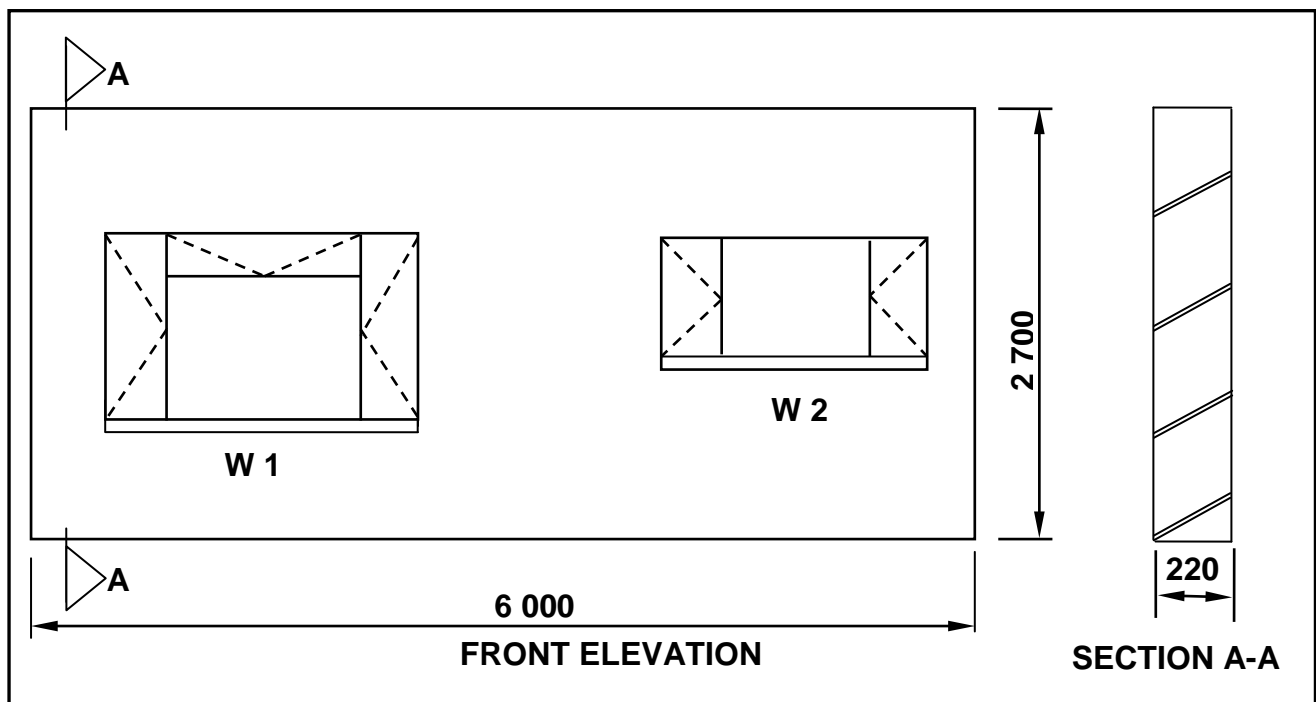

FIGURE 4.3
- 4.3 FIGURE 4.3 shows the front elevation and vertical section of a part of a wall (superstructure only).